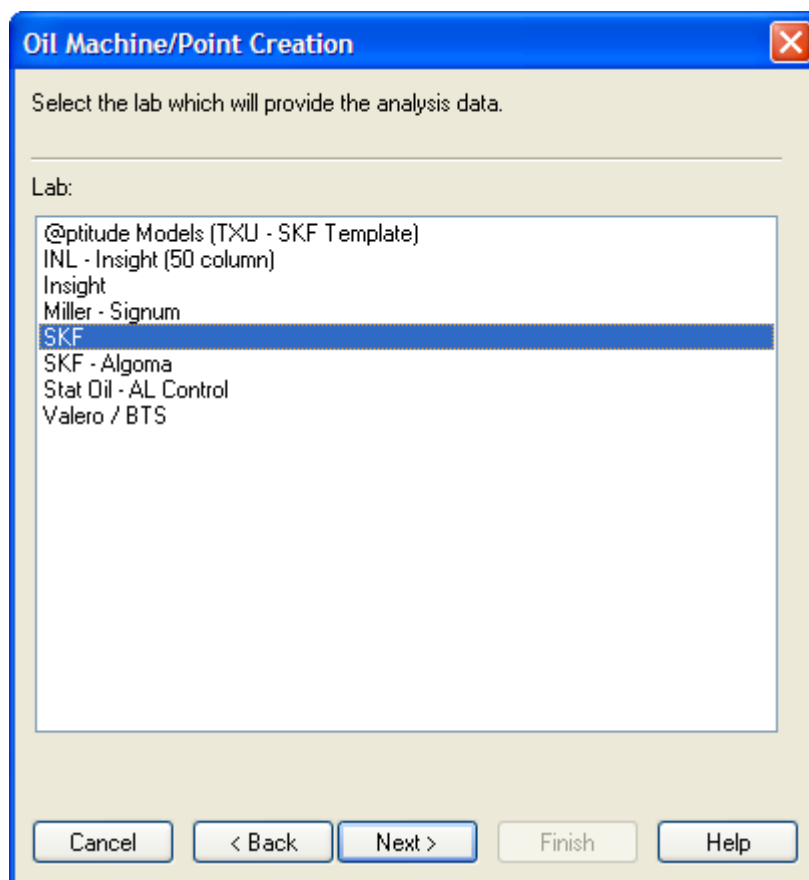

Figure 7. Select lab
10. Select the **lab** type and then press [Next]. [Figure 7]